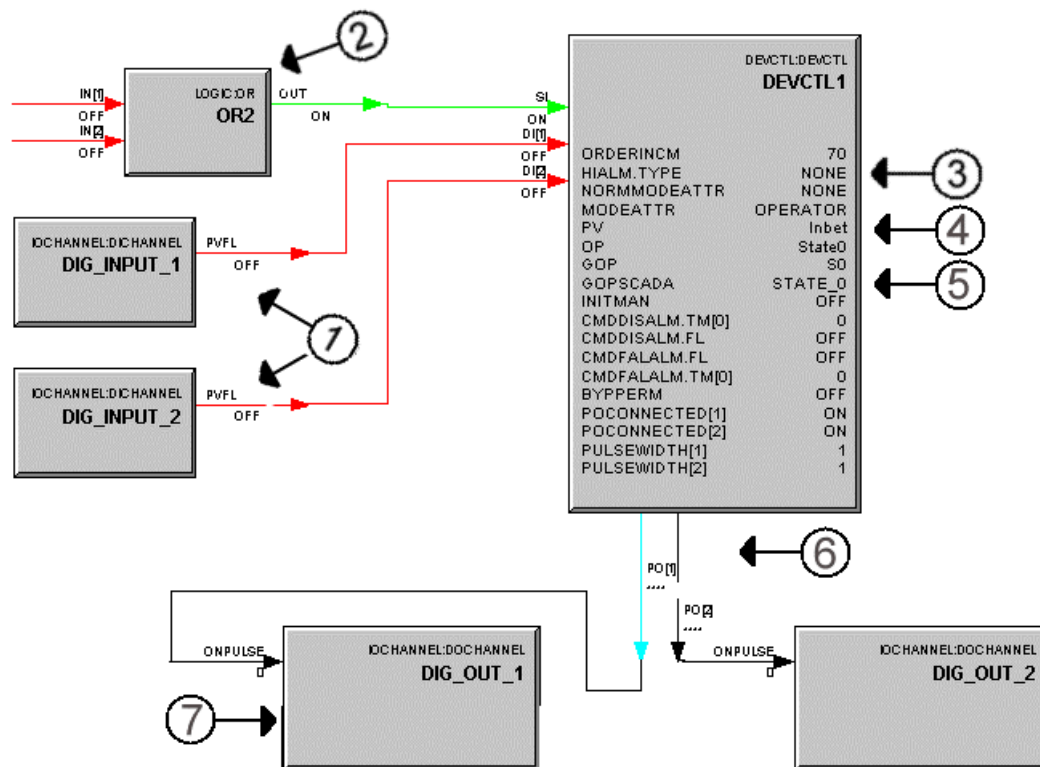

Figure 42 Example of CB configuration using DEVCTL block to provide two on pulse outputs.
- Pulse Output – Figure 42 and its companion callout description table show a sample configuration that uses a DEVCTL block to command two on pulse outputs. The view in Figure 42 depicts a loaded configuration in Monitoring mode.
The following table includes descriptions of the callouts in Figure 42.